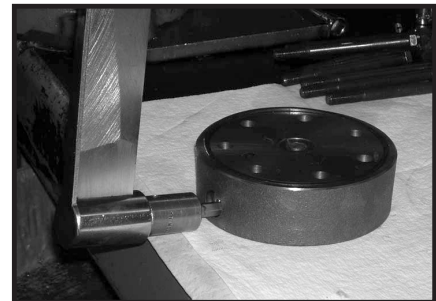

Figure 7
5. If the end cover (2) is equipped with shuttle valve or relief valve (24) components, remove the two previously loosened plugs (21) and o-rings (22). SEE FIGURE 7.